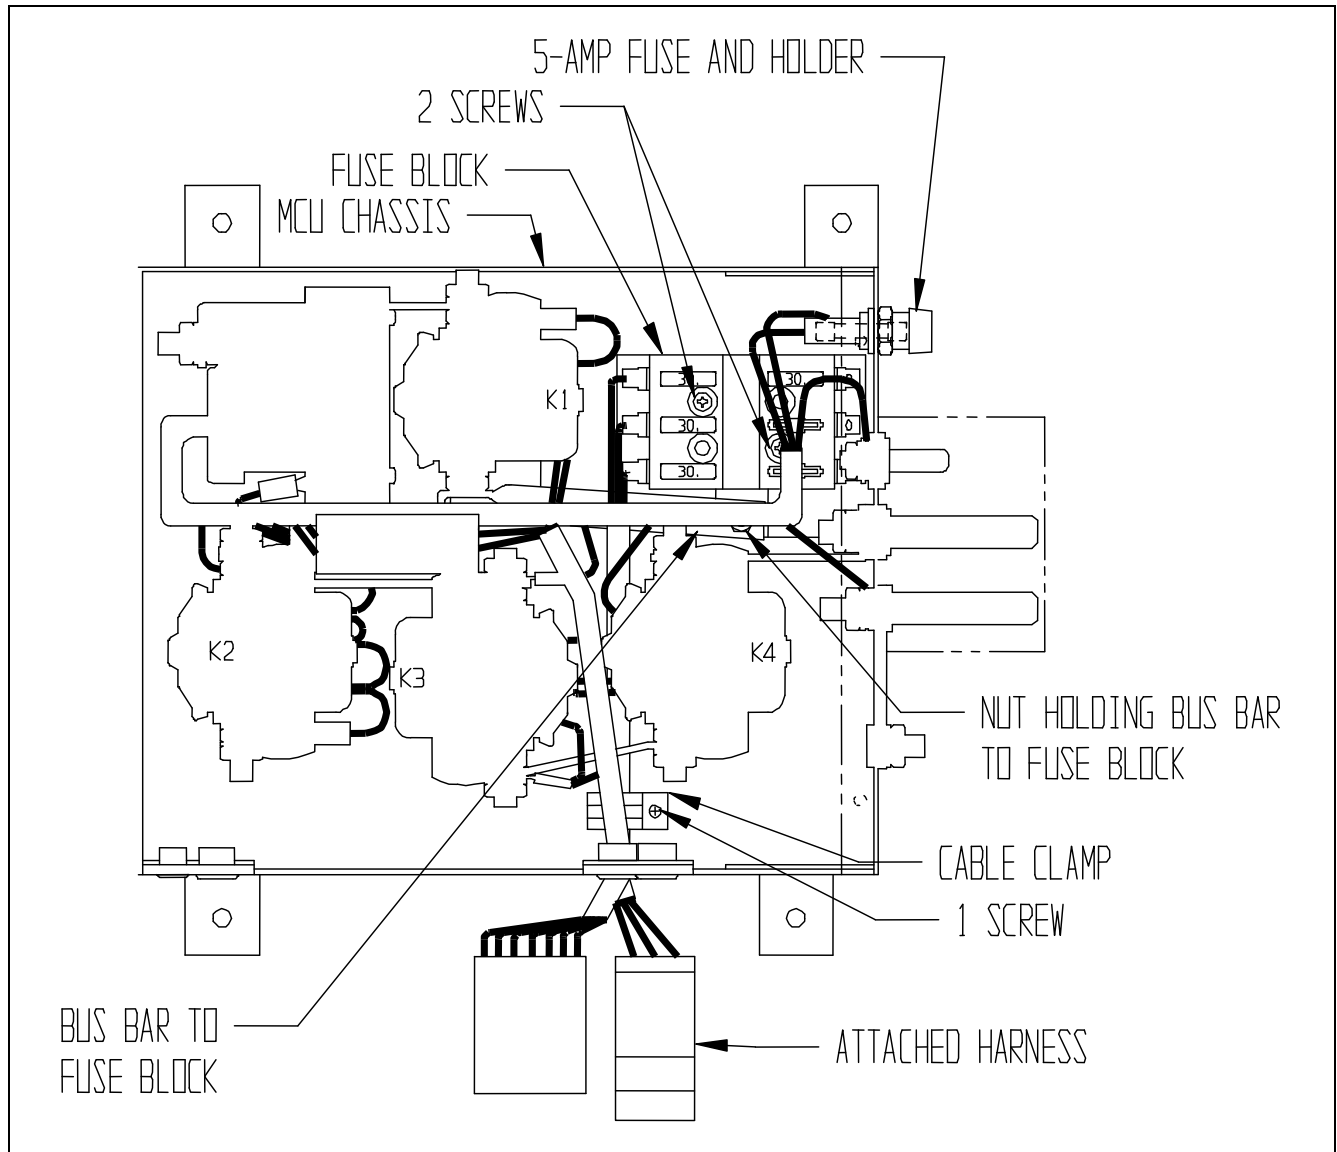
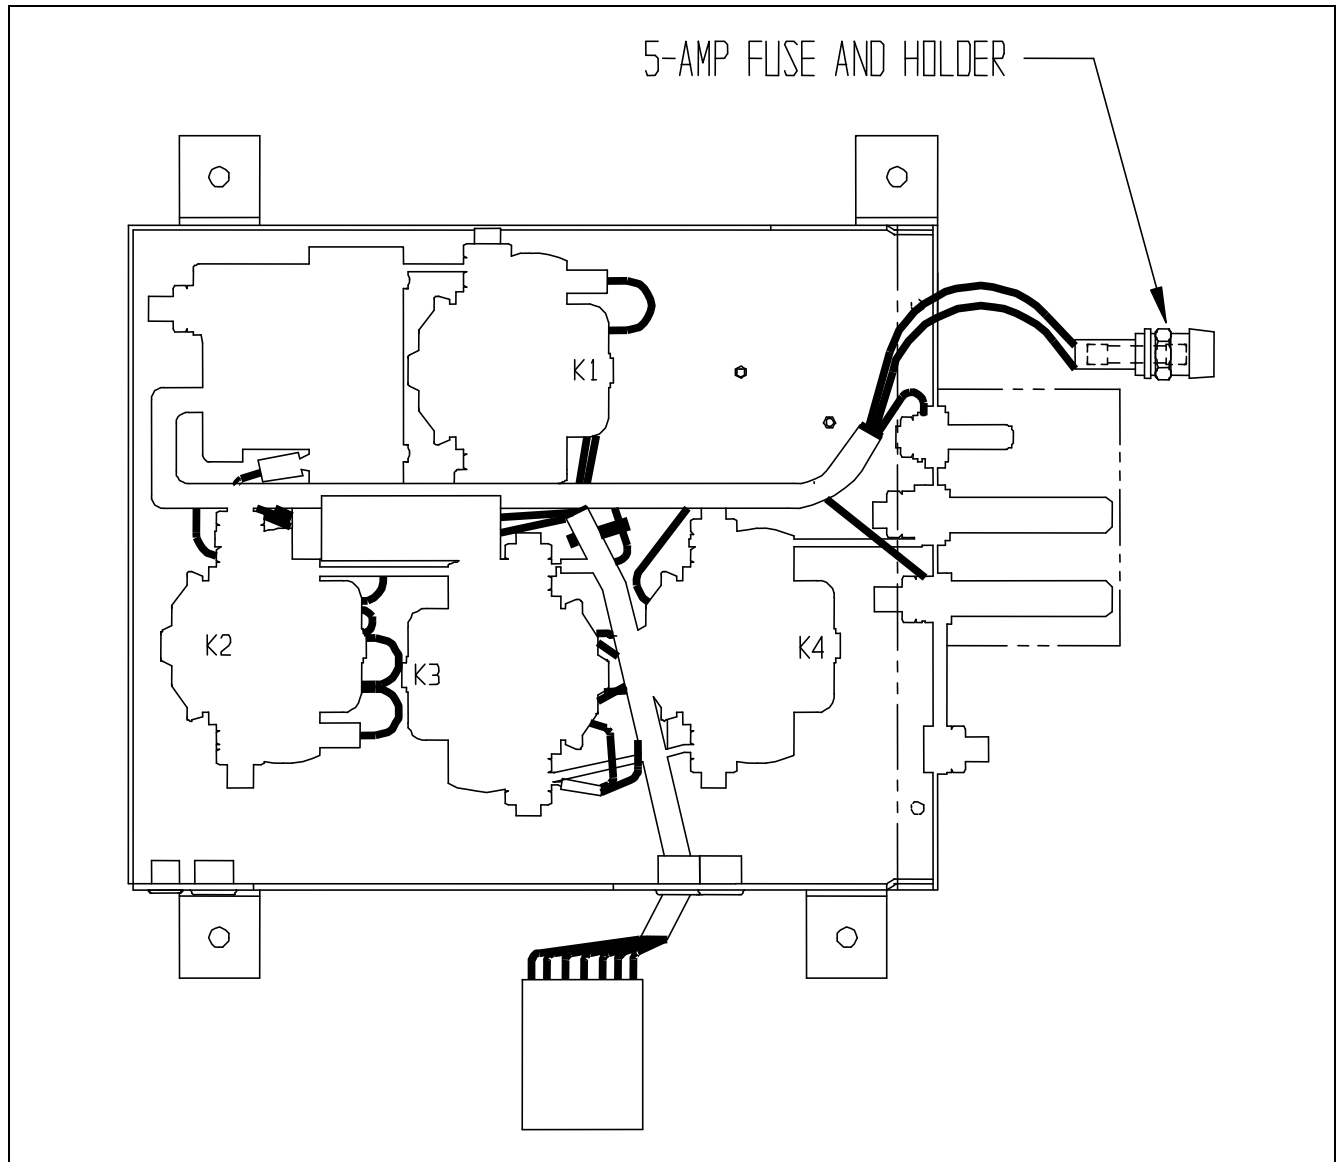

FIGURE 1: MCU with cover removed.
FIGURE 2: MCU with fuse block assembly removed.
- 2) Remove 5-AMP FUSE AND HOLDER from MCU CHASSIS (See Figure 1). Do not remove wires from fuse holder. (See Figure 2)
- 10) Figure 2 shows how the MCU should look with the 5-AMP FUSE AND HOLDER, and FUSE BLOCK with ATTACHED HARNESS removed from the MCU CHASSIS.